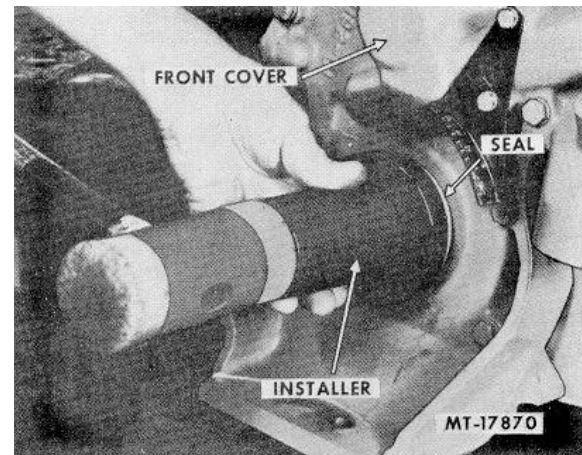

Fig. 123. Installing Engine Front Cover Oil Seal
- c. Place installer over end of crankshaft and drive seal into cover (Fig. 123). Seal is properly located when inner shoulder of tool contacts machined surface of front cover.